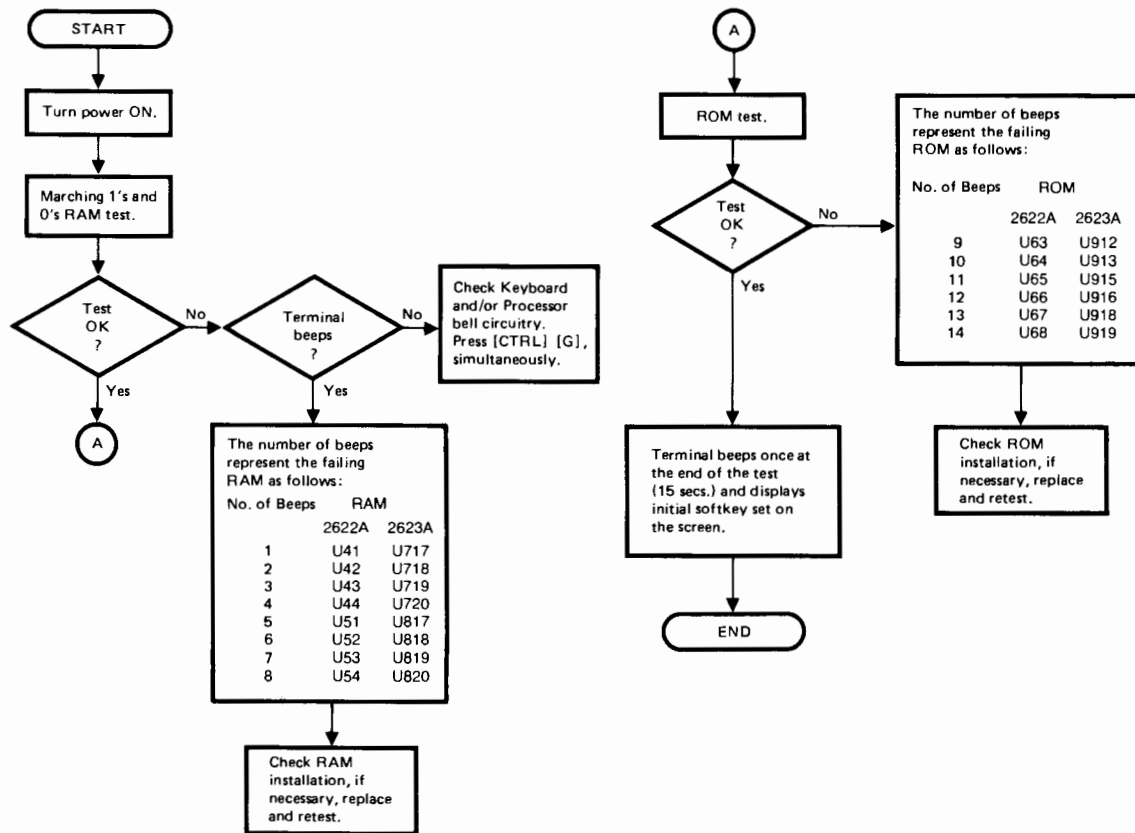

Figure 6-1. Power-On Test Flowchart
**DESCRIPTION.** The power-on test (figure 6-1) checks the following items on the Processor PCA: